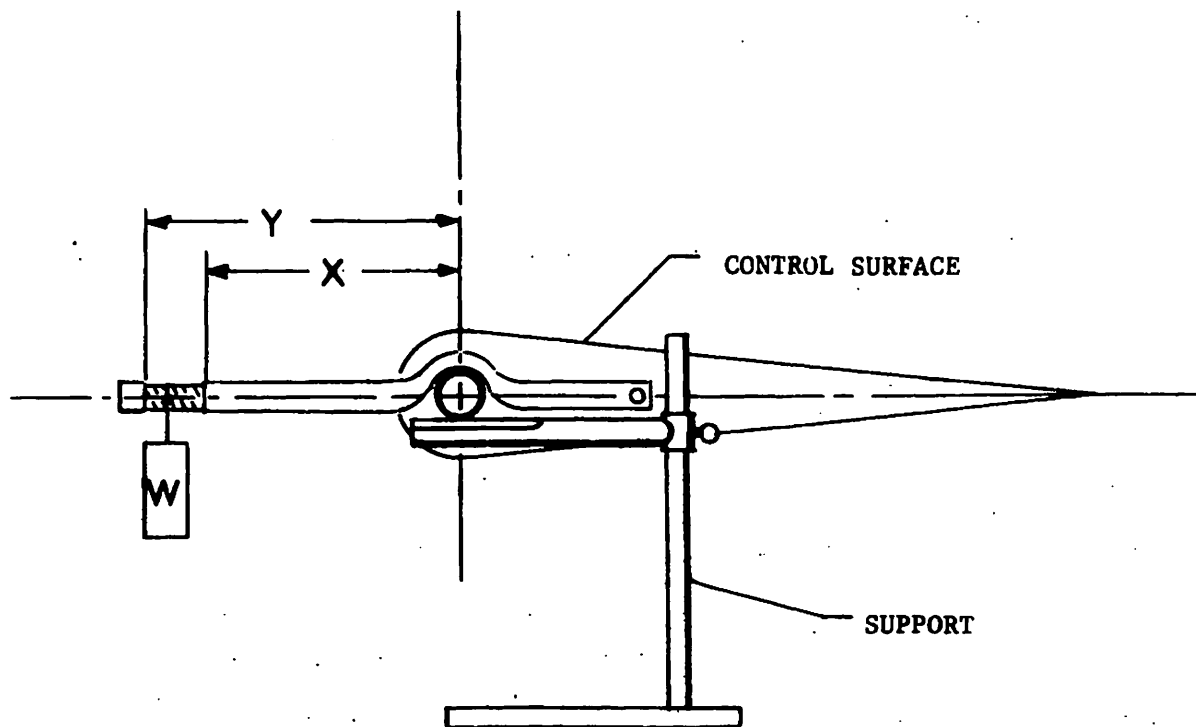

Figure 5-10. Control Surface Balancing Device
- b. The device must balance perfectly about a point within itself, (Figures 5-10 & 11) which will lie in a vertical line through the hinge line of the control surface when it is engaged with the surface balancing. The balancing of the device must be accomplished before attachment to the control surface.
- e. A balance slug can be of any weight. However, the most practical size would be one whose weight would require a balance arm of from 6 to 16 inches to properly balance the control surface. Refer to examples on Figures 5-10 and 5-11.